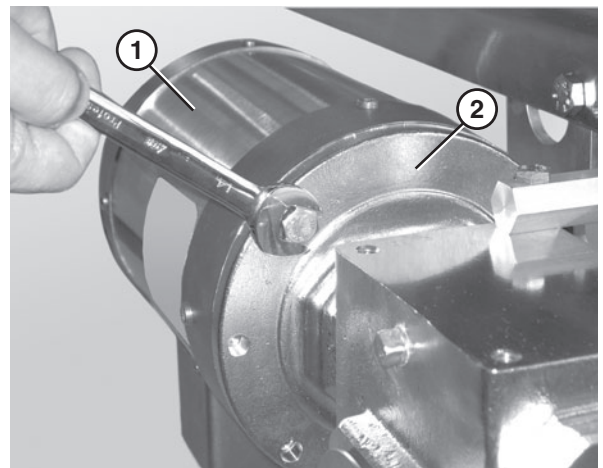

Figure 56
2. Remove the bolts that connect the motor to the drive assembly (**Figure 56**).
3. Remove the motor (**Figure 56, item 1**) from the drive assembly (**Figure 56, item 2**).